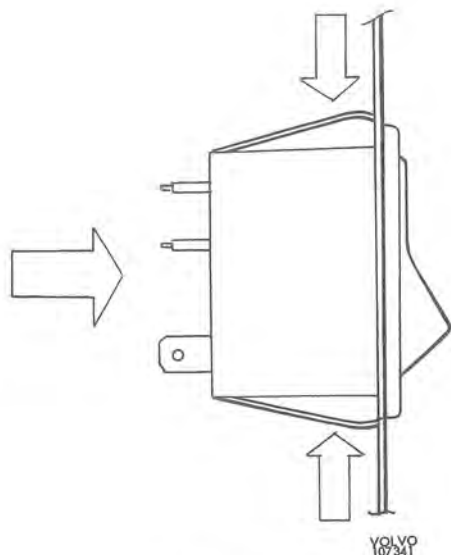

Fig. 3-103. Removing switch
4. Remove the switch by first pressing in the lock springs and then pressing the switch out of the panel, see Fig. 3-103.